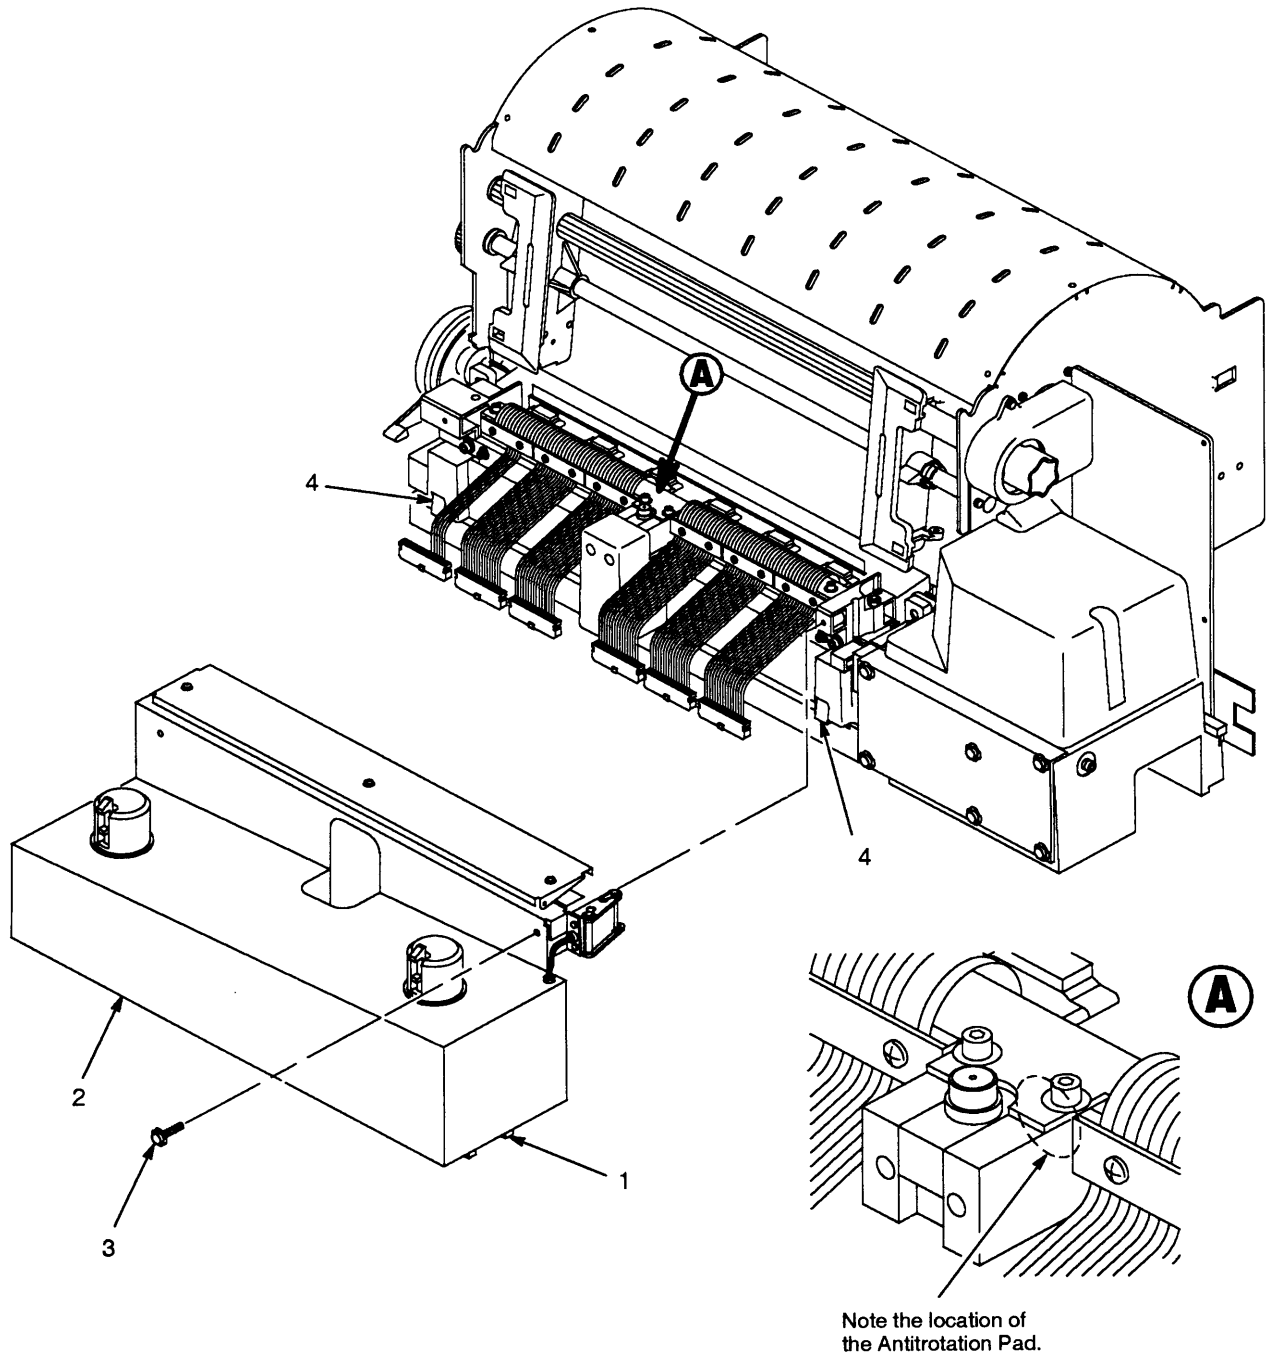

Figure 6-1. Ribbon Deck Removal
5. Disconnect four connectors (1) from the bottom of the ribbon deck assembly (2). (See Figure 6-1.)
6. Remove three hex head screws (3) securing the ribbon deck assembly (2).
7. Lift the ribbon deck assembly off the retaining clips (4).
In the next three steps, do not let the shims and antirotation block pad fall into the printer. (The location of the antirotation block pad is shown in Figure 6-1.)